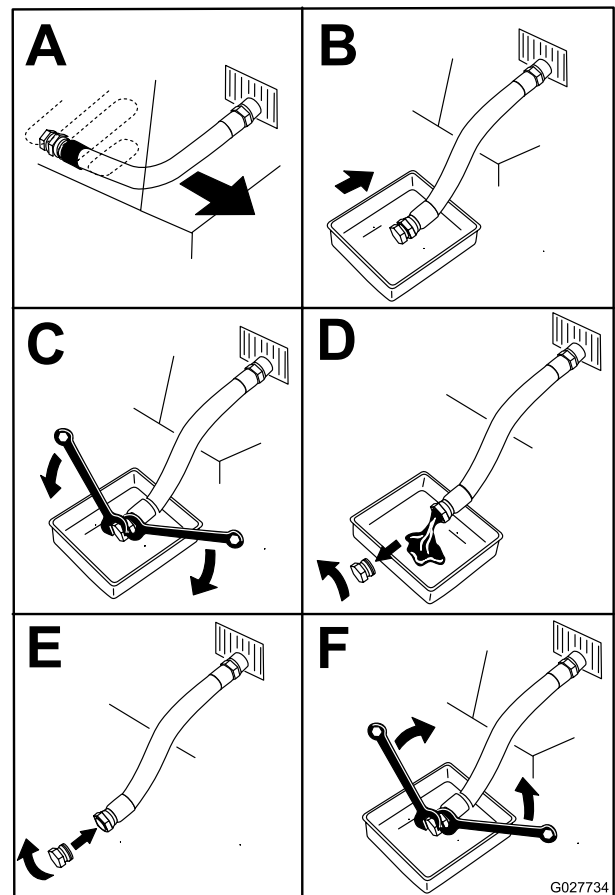

Figure 49
- Drain the engine oil (Figure 49).